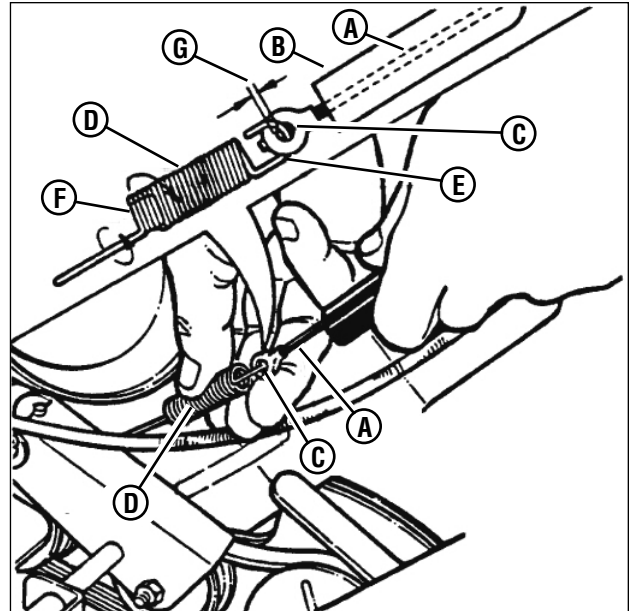

Figure 24: Wheel drive control adjustment
- The wheel drive control is properly adjusted when there is 1/16" to 1/8" clearance (G, Figure 24) between the inside of the spring hook (E) and the inside of the clutch cable eye (C) with the wheel drive control released.